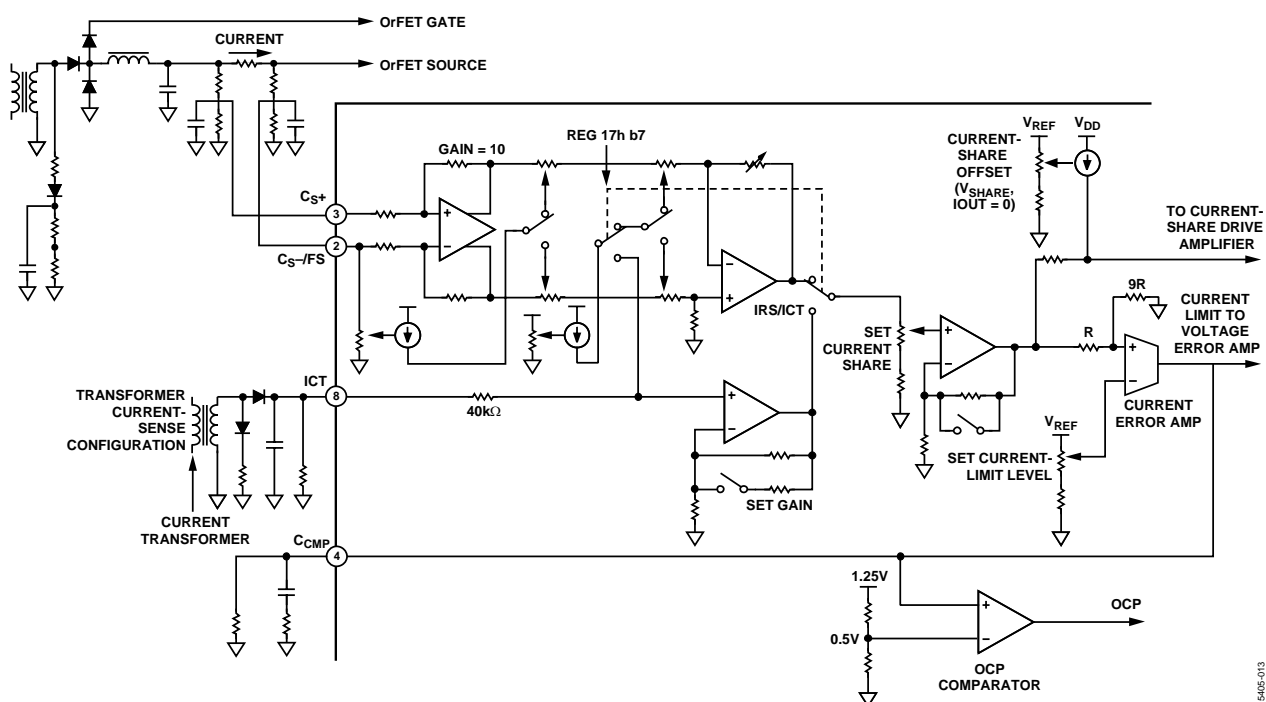

Figure 13. Current Sense
A 1.5 V reference is connected to the inverting input of the voltage error amplifier. This 1.5 V reference is the output voltage of the soft-start circuit. Under closed-loop conditions, the voltage at the noninverting input is also controlled to 1.5 V. During start-up, the output voltage should be ramped up in a linear fashion at a rate that is independent of the load current. This is achieved by digitally ramping up the reference voltage by using a counter and a DAC. The ramp rate is configurable via the SMBus. See Figure 13.
This is a two-stage differential amplifier that achieves low offset and accuracy. The amplifier has the option to be chopped to reduce offset or left as a linear amplifier without chopping. Refer to the Register Listing for more details. The amplifier's gain can be selected from three ranges. It is followed by a trim stage and then by a low gain buffer stage that can be configured with a gain of 1.0 or 2.1. The result is a total of six overlapping gain ranges (65 to 230), one of which must be selected via the SMBus. This gives ample adjustment to compensate for the poor initial tolerance of the resistance wires typically used for current sensing. It also allows selecting a higher sensitivity for better efficiency or a lower sensitivity for better accuracy (lower offset). The amplifier offset voltage is trimmed to zero in a once-off operation via the SMBus and uses a voltage-controlled current source at the output of the first gain stage. A second controlled current source is used to trim out the additional offset due to the mismatch of the external divider resistors. This offset trim is dynamically adjusted according to the common-mode voltage present at the top of the voltage dividers. Six ranges are selectable according to the magnitude and polarity of this offset component. Because the offset compensation circuit itself has some inaccuracies, the best overall current-sense accuracy is obtained by using more closely matched external dividers and then selecting a low compensation range. See Figure 13.
Current is typically sensed by a low value resistor in series with the positive output of the power supply, positioned just before the OrFET or diode. For high voltages (12 V and higher), this resistor is usually placed in the negative load. A pair of closely matched voltage dividers connected to Pins 2 and 3 divide the common-mode voltage down to approximately 2.0 V. The divider ratio must be the same as used in the local and remote voltage-sense circuits. Alternatively, current may be sensed by a current transformer (CT) connected to Pin 8. The ADM1041A must be configured via the SMBus to select one or the other. See Figure 13.
required. It is possible to fine trim this current via Register 15h, Bits 4–0, step size 170 nA. For example, 2.5 μA ≈ 15 × 170 nA; so the code for Register 15h is decimal 15 or 0Fh. Refer to the Current Transformer parameter in the Specifications table for more details. See Figure 13.
This is a low gain transconductance amplifier that takes its input from one of the calibrated current stages described previously. The amplifier requires only the output pin for loop compensation, which typically consists of a series RC network-to-common. A trimmable reference provides a wide range of adjustment for the current limit. When the current signal reaches the reference voltage, the output of the error amplifier comes out of saturation and begins to drive a controlled current source. The control threshold is nominally 1.0 V. This current flows through a resistor in series with the trimmed voltage loop signal and thereby attempts to increase the voltage signal above the 1.5 V reference for that loop. The closed voltage loop reacts by reducing the power supply's output voltage and this results in constant current operation. See Figure 13.